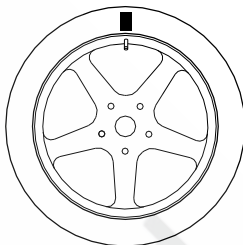

Fig. F5.4 - Marking of the valve position on the tire
3. Bring the valve to the 12 o'clock position, mark the valve position on the tire (see figure F5.4).
8. Rotate the wheel until all position arrow LEDs light up and then mark the 12 o'clock position as shown in figure F5.4;